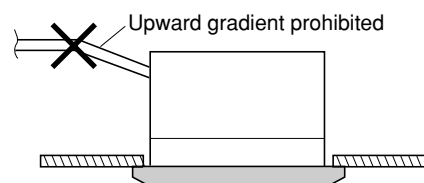

Fig. 3-14
- Do not install the pipe with an upward gradient from the connection port. This will cause the drain water to flow backward and leak when the unit is not operating. (Fig. 3-14)